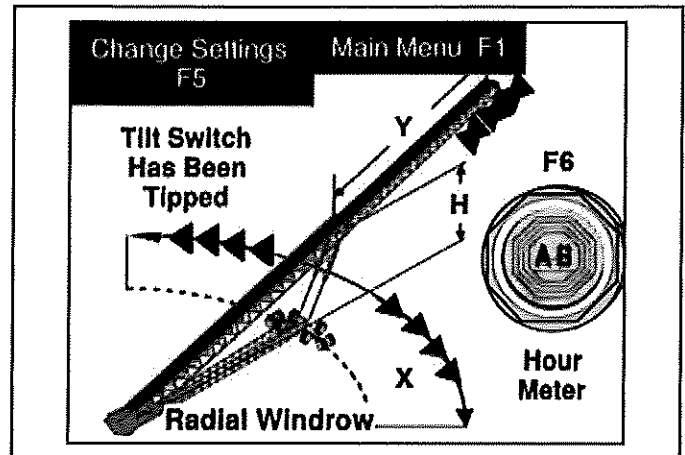

Figure 73
- Press screen AB (Green Button) or [F6] to start conveyor (Figure 73).
- Press screen F5 or [F5] to change settings (Figure 73).
- Press screen F1 or [F1] to choose a different pile (Figure 73).
- The Tilt Switch Has Been Tipped on the screen will appear when the tilt switch has been activated for 5 seconds. This will stay on until conveyor rises to its next level (Figure 73).
- The Hour Meter will track running hours of the conveyor. (Figure 73).